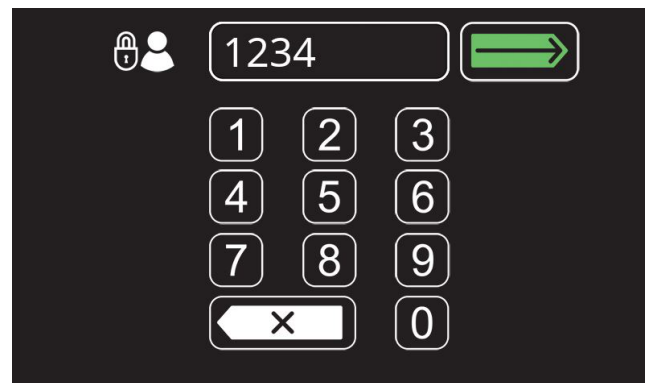

FIG. 148
3. First time use - Enter the factory-assigned supervisor mode login code "1234" then press the green enter button (Figure 148).